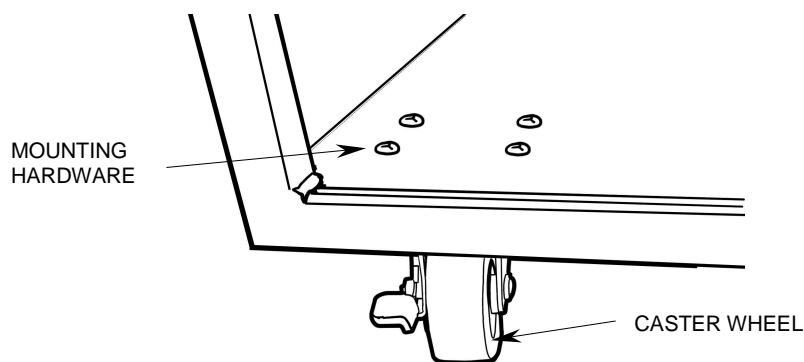

Figure 1. Swivel Caster Replacement.
**Caster:** The sink assembly contains locking casters in the front of the assembly and non-locking casters in the back. Locking casters may be used as replacements for non-locking casters with the caster left in the unlocked position. See Figure 1. To replace a caster (front or back) remove the four screws from the mounting plate and the damaged caster. Replace the caster and reinstall the four screws.